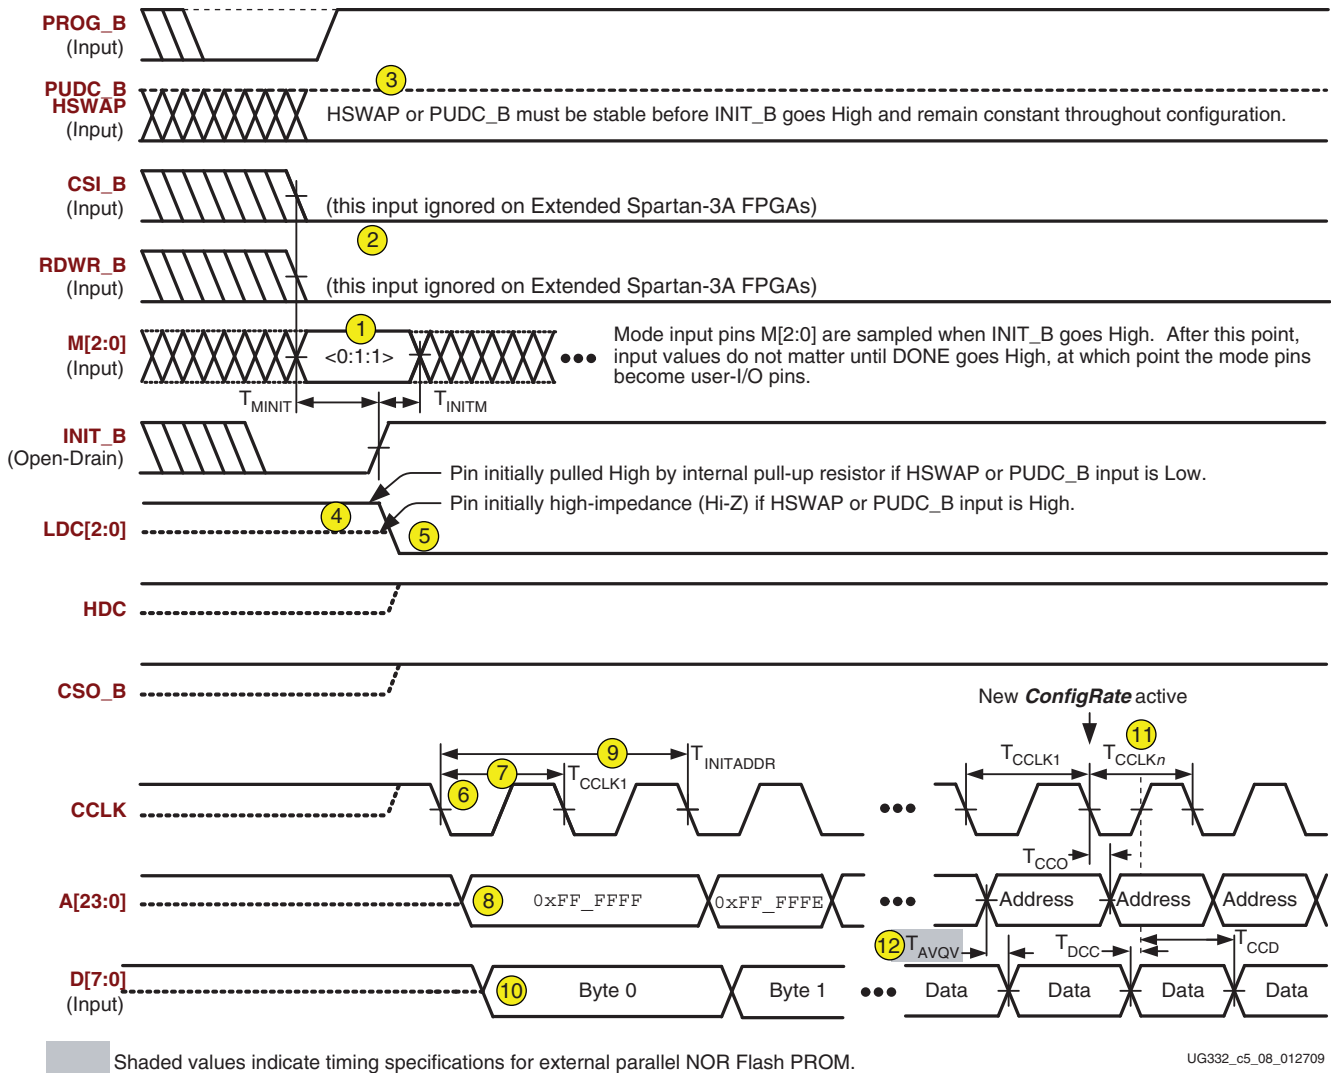

Figure 5-14: BPI Configuration Timing Waveform (Spartan-3E BPI Down mode shown)
Figure 5-14 provides a detailed timing diagram for the BPI configuration mode. The specific diagram is for the Spartan-3E FPGA family, using the BPI Down mode. However, the timing is also similar for the Extended Spartan-3A family FPGA families and for the BPI Up mode.
The following numbered items correspond to the markers provided in Figure 5-14.
3. The **HSWAP** or **PUDC_B** pull-up resistor control input must be setup and valid before the rising edge of **INIT_B**. Similarly, the example in Figure 5-14 shows the pull-up resistors enabled.